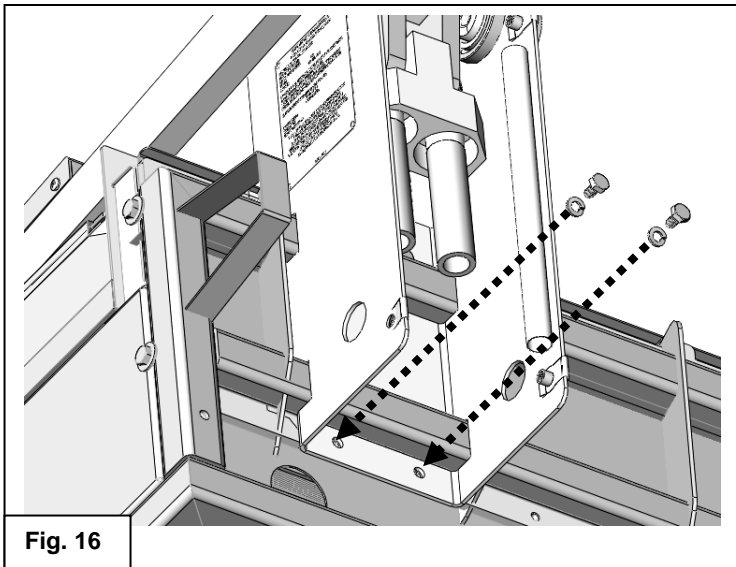

Fig. 16
18. Insert and tighten the bottom mounting bracket screws and washers. Fig.16.